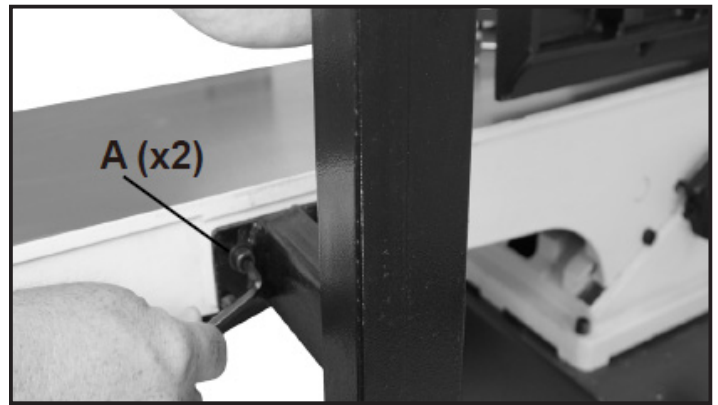

FIG.5.9
- Install the Switch Post to the rear of the infeed table and secure using two M8 x 20mm Allen bolts and two 8mm flat washers. A-FIG.5.9.